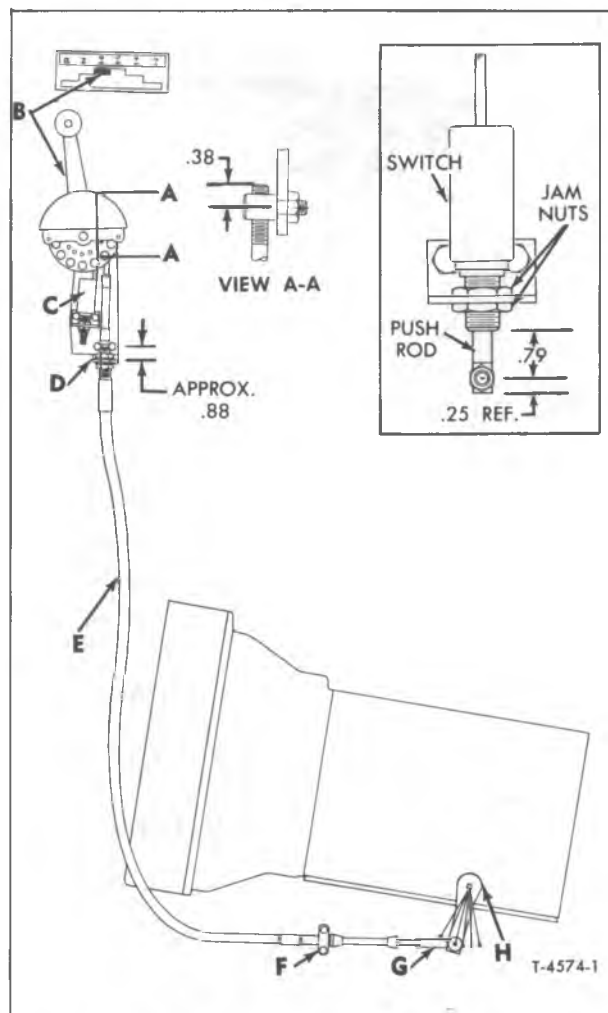

Figure 16—Manual Range Selector Linkage (TG50)
2. To facilitate installation of TV Linkage Adjustment Gauge (J-23739) disconnect manual range selector linkage at transmission by removing clevis pin from shift lever (H, fig. 16).
11. Remove gauge from transmission and connect clevis (G, fig. 16) to shift lever (H).
- TG50 (Refer to Fig. 16)
1. Locate transmission selector lever (B) against stop in "3-6" position.
2. Check cable for dimension shown in View A-A, figure 16, and adjust if necessary. Anchor cable to bracket at point (D).
(Refer to Fig. 16)
3. Move lever (B) to "N" (Neutral) position, then referring to Inset, figure 16, loosen jam nuts and adjust length of push rod to dimension shown.